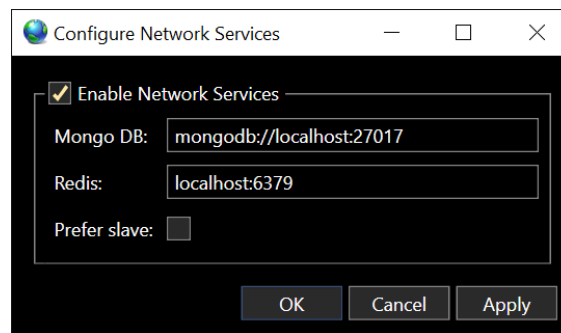

FIGURE 23-3 NETWORK SERVICES ENABLED
2. Enable Network Services by checking the box (see Figure 23-3)